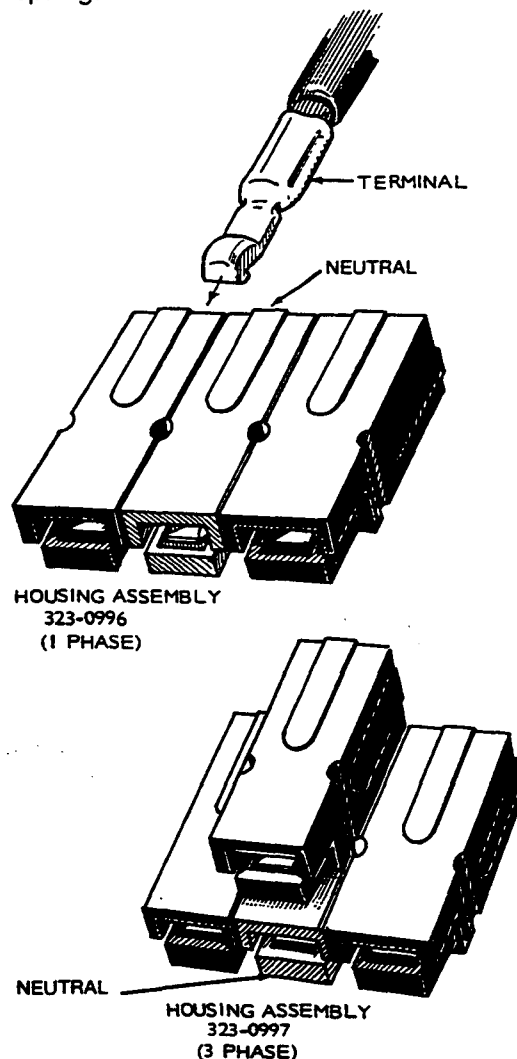

FIGURE 11. SINGLE AND THREE PHASE PLUGS
4. Assemble cable terminal ends into plug housing assembly as indicated in Figure 11. The terminal just snaps into the plug and is retained by a flat spring.